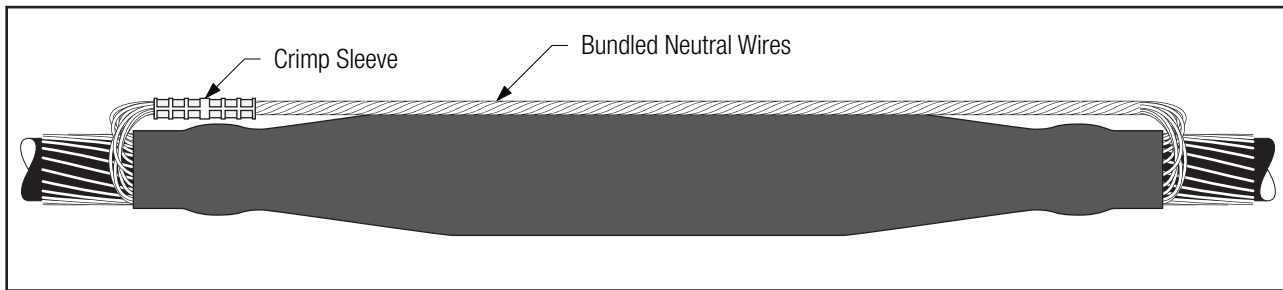

Figure 37
9.3 **For exposed neutral connection:** Route neutrals over splice and connect. Include two wires routed under splice jacket (*Figure 37*).